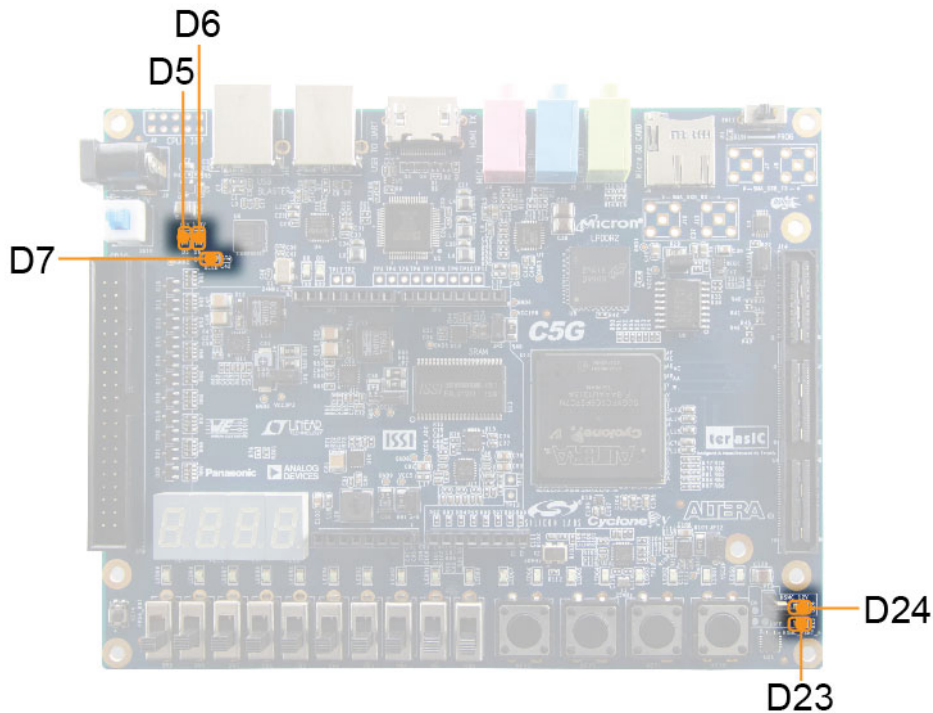

Figure 3-6 Status LED position
- The FPGA development board includes board-specific status LEDs to indicate board status. Please refer to **Table 3-1** for the description of the LED indicator. Please refer to **Figure 3-6** for detailed LED location.